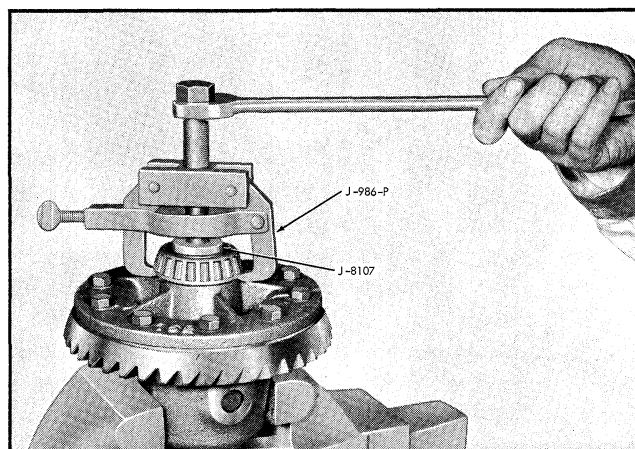

Fig. 4-25 Removing Differential Side Bearing
6. If bearing inspection indicates that bearings should be replaced, insert differential case in vise and, using side bearing puller J-986-P, and adapter J-8107 remove side bearing (Fig. 4-25).